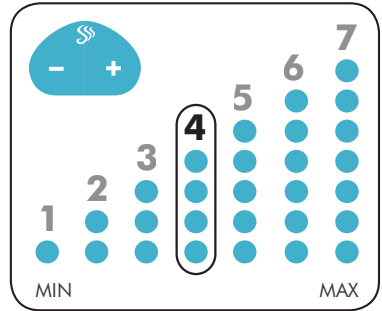

Fig.3: There are seven (7) Scent Levels to choose from.
- Press - or + to adjust the Scent Level. (Fig.3)